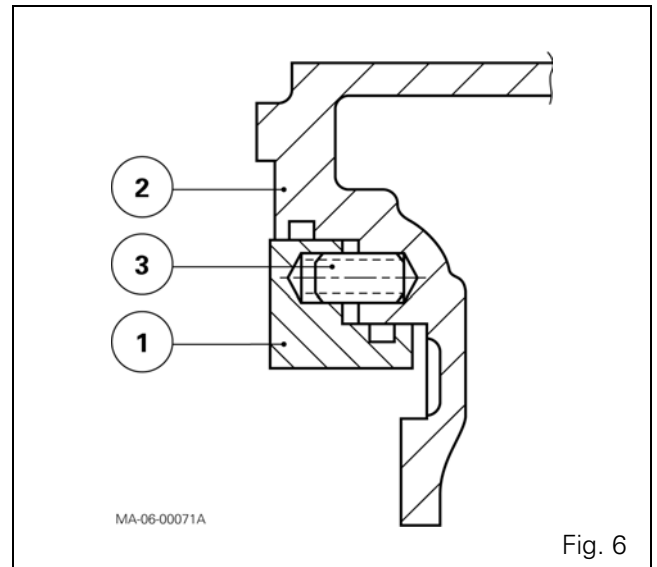

Fig. 6
7. Fit the piston (1) without seals in the housing (2) (Fig. 6) and check that it slides freely in the bore of the housing and that it fits onto the locating pins (3) without any friction points. Remove the piston after carrying out this check.